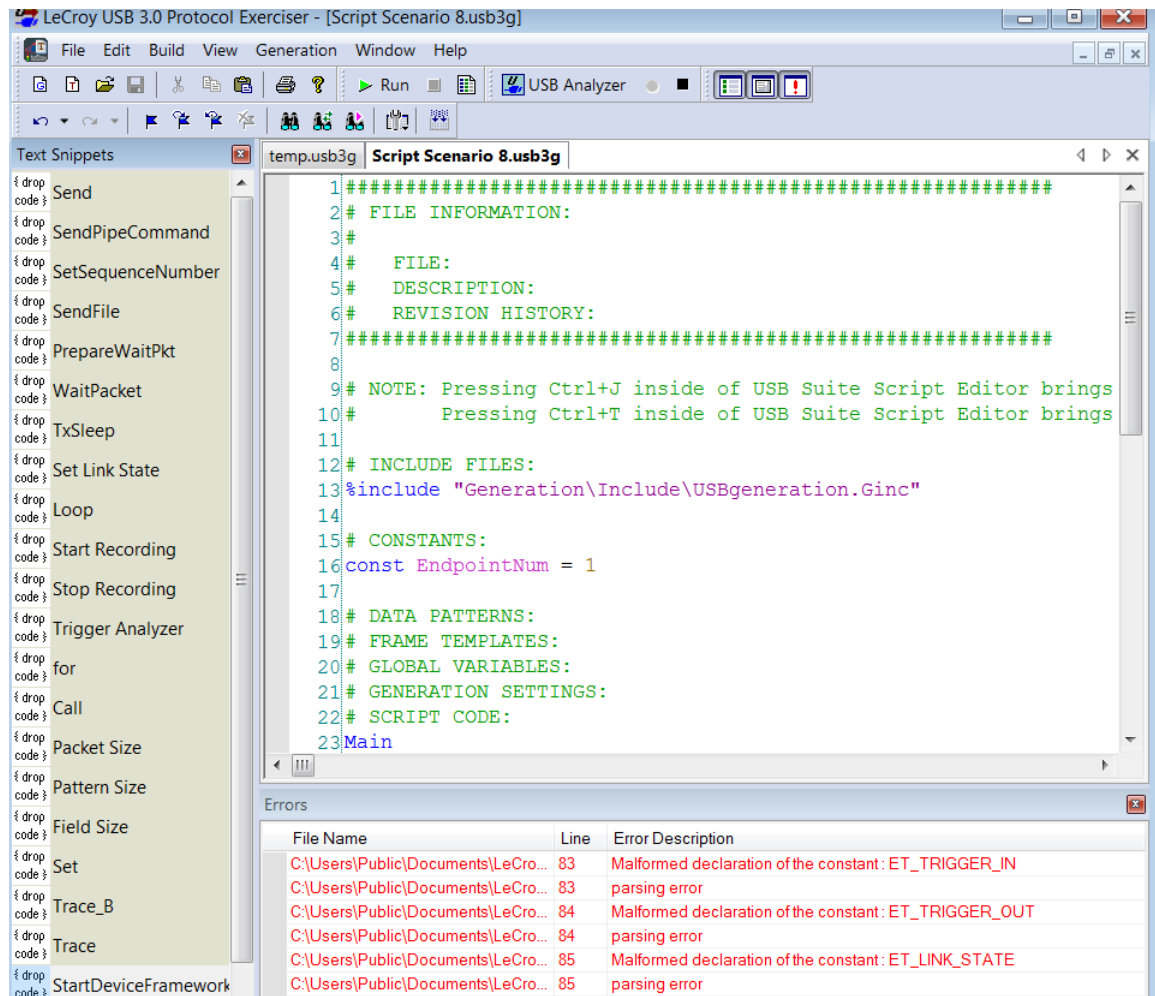

Figure 12.8: Script Scenario
1. Click the  **New Generation Scenario** button or select **File > New Generation Scenario** to display a blank script (see Figure 12.8 on page 361).